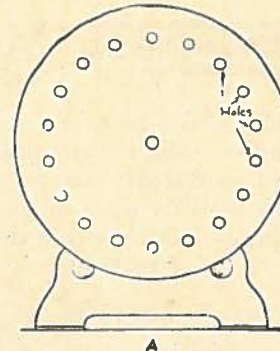

Fig. 7
(1) Punch a ring of evenly spaced holes around the edge of a disk 3 inches in diameter with a sharp-pointed nail and make a hole in the center of it, as shown at A in Fig. 7, and mount it on the shaft of your motor. Take a rubber tube  $\frac{1}{4}$  inch in diameter and 1 foot long, make a mouth-piece of cardboard and fix the small end of it to one end of the tube. Now run your motor and then blow with the mouth-piece, when the disk will give forth a musical note. (2) Punch a ring of unevenly spaced holes around the edge of the disk, rotate it, and blow into the tube as before, when it will give forth a curious noise.